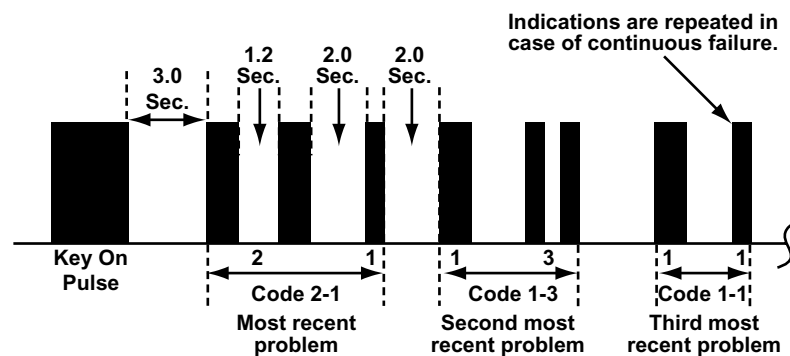
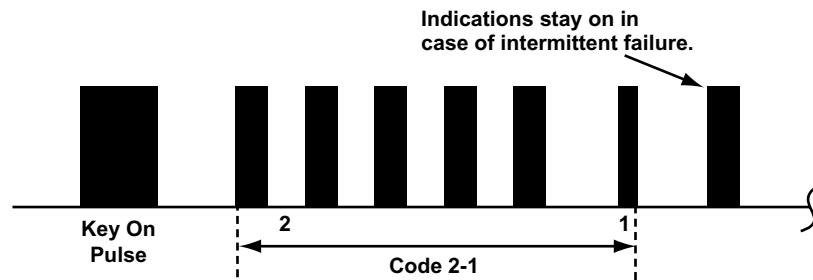
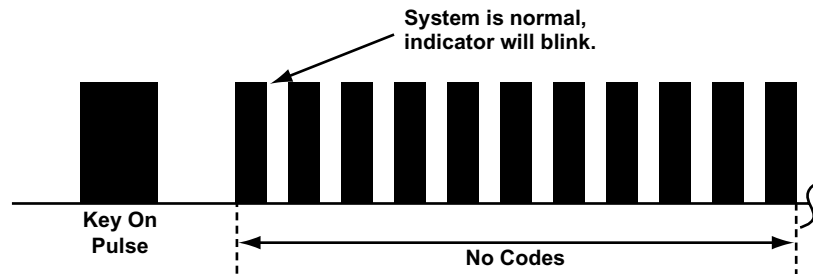

Figure 10-29 *Isuzu SRS Code Type 02a: Continuous Failure, SRS indicator flashes like this*
Figure 10-30 Isuzu SRS Code Type 02a: Intermittent Failure, SRS indicator flashes like this
Figure 10-31 Isuzu SRS Code Type 02a: Normal (no failure), SRS indicator flashes like this
- Type 02a, see Figure 10-29, Figure 10-30 and Figure 10-31 and Table 10-8 on page 116
- In case of continuous failure(s), the DTC(s) will be indicated repeatedly (see Figure 10-29).
- In case of intermittent failure(s), the SRS indicator light will indicate (each of) the DTC(s) one time, then it will stay on (see Figure 10-30).
- In case the system is normal (no DTC), the SRS indicator light will start to blink (see Figure 10-31).